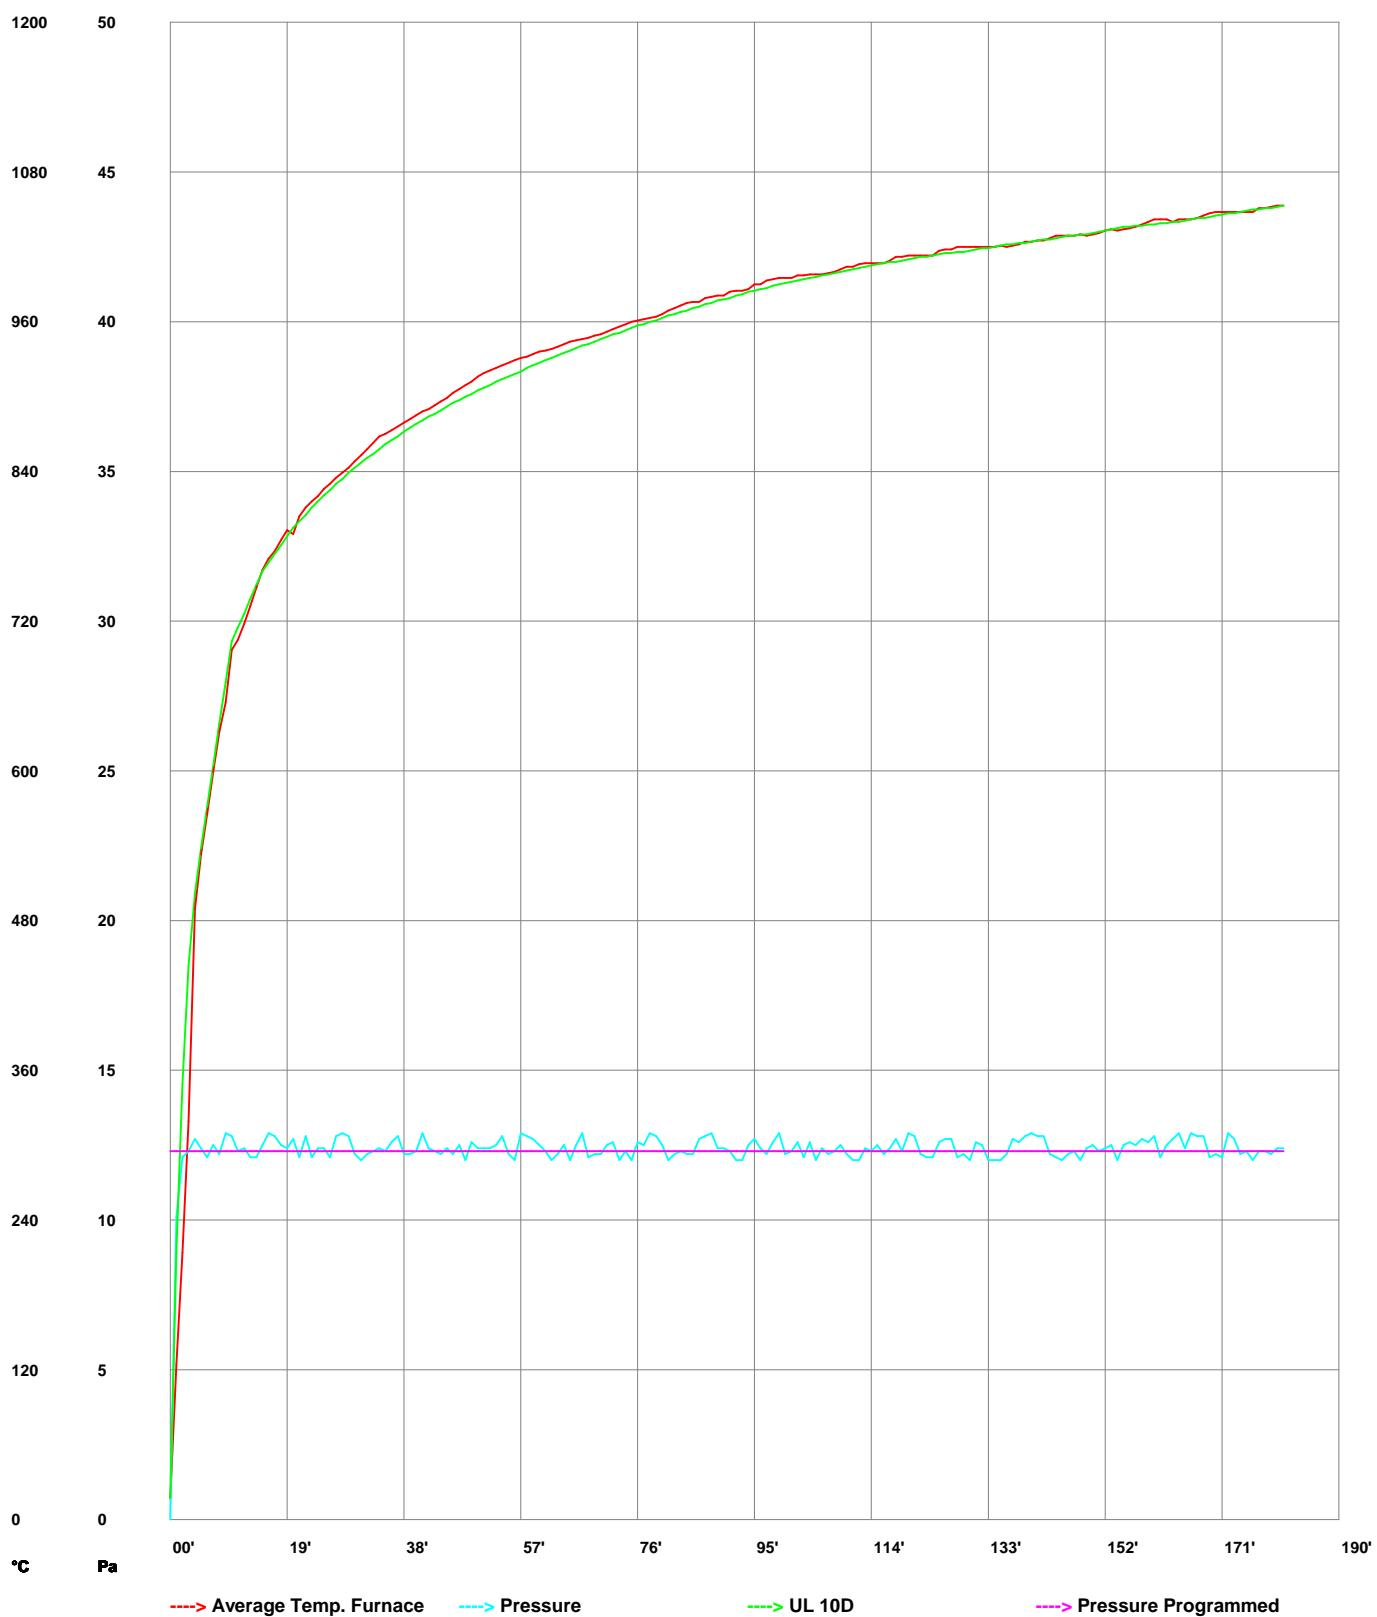

FIGURE 2
- 7.1 Figure 2 shows the time/temperature curve of the furnace for this test and the standard curve. Table 1 shows increases in furnace's temperature during the test and the percentage differences between the area under the standard curve and the area under the curve corresponding to the test in comparison to percentage tolerated by UL 10D: 2014.
Figure 2 and table 1 show the internal pressure during the test.